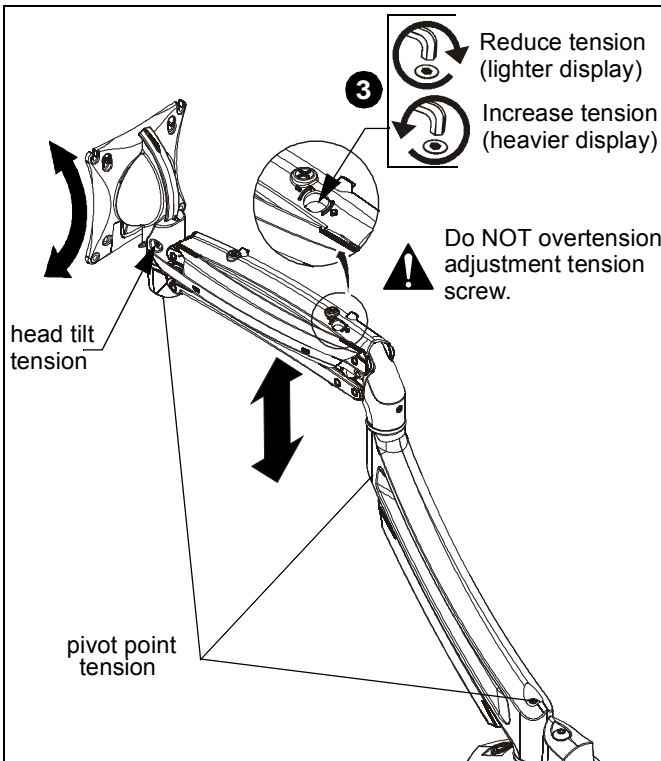

Figure 6
1. Adjust head tilt to desired tilt position. (See Figure 6)
2. Adjust head tilt tension screw to change the adjustment tension. (See Figure 6)
1. Adjust arm height to desired level. (See Figure 6)
3. Use 1/8" hex key (F) to adjust height-adjustment tension screw to change adjustment tension. (See Figure 6)
1. Adjust pivot position as desired. (See Figure 6)
2. Use 3/16" hex key (E) to adjust pivot point tension screws to change pivot adjustment tension. (See Figure 6)